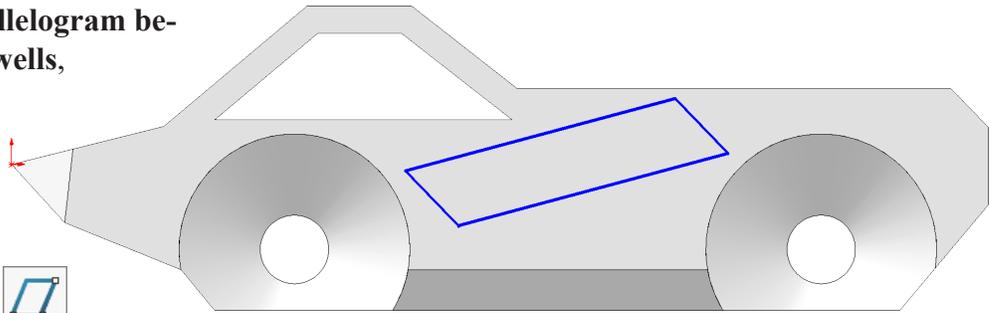

Fig. 73
Step 4. Sketch a **parallelogram between wheel wells**, **Fig. 73**.